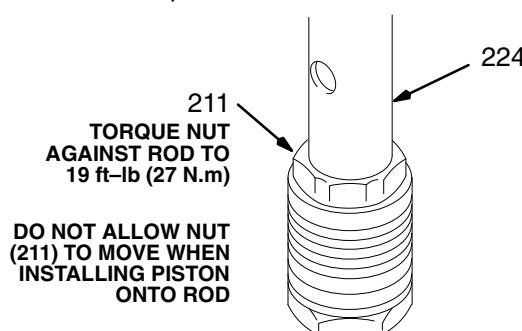

Fig 37-2
7. Use a wrench to **CAREFULLY** tighten the nut (211) onto the piston rod to 19 ft-lbs (25 N.m). See Fig 37-2. Use two wrenches to maintain the alignment mentioned in Step 7, above.